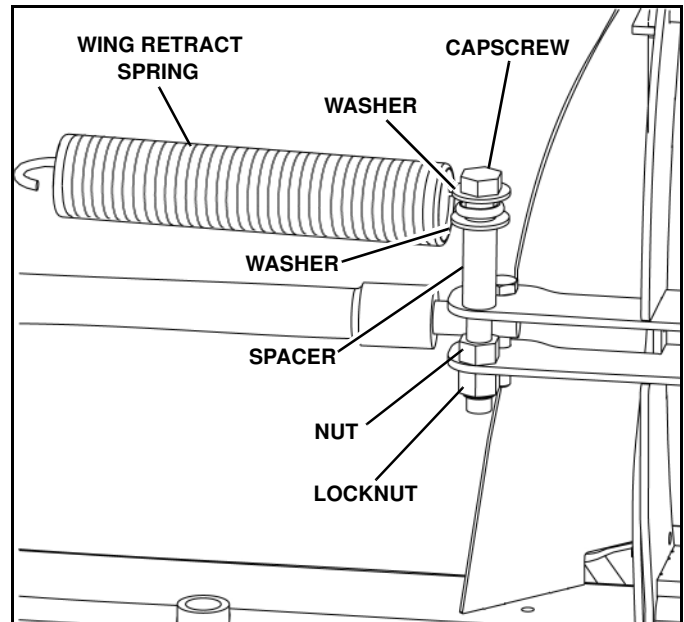

Figure 2-14
5. Install a 3/4" x 6-1/2" capscrew and 3/4" flat washer through the closed loop of the retract spring. Install a second 3/4" washer and spacer on the bolt. Insert the bolt/spring assembly through the top wing pivot bracket and begin to thread a 3/4" nut onto the bolt. Continue threading the nut on the bolt until it bottoms on the bolt threads. Install a 3/4" locknut on the bolt below the lower wing pivot bracket and tighten securely (See Figure 2-14)